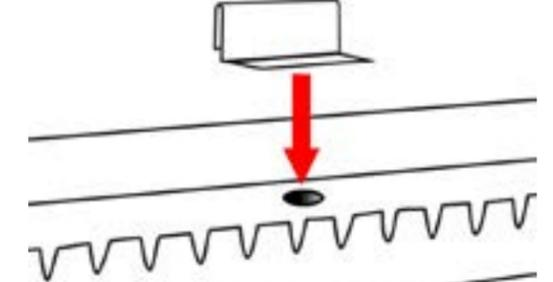
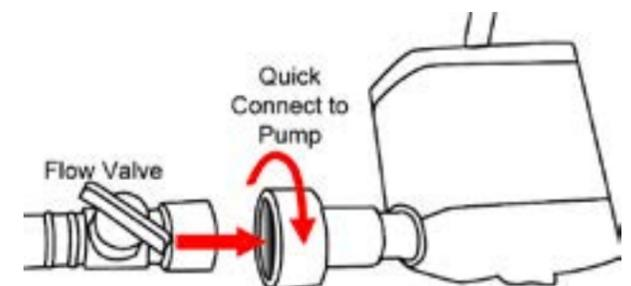

FIG. 5.2
FIG. 5.3
2. Drop the water diffuser(s) (F) directly over the center of the disperser hole(s) Fig 5.2). The diffuser(s)(F) will clip on the back edge of the disperser (E). Make certain the diffuser(s) (F) sit directly over the hole(s) (Fig 5.2).
3. During the mounting of the stone the plumbing tubing and connection may have moved behind the stone. Gently lift the bottom edge of the stone forward and pull the plumbing down so it is resting in the reservoir (L). The vinyl tubing should be inside the rounded bump out in the reservoir (L) so the weight of the stone does not pinch it closed.
4. Connect the pump (H) to the plumbing using the quick connect fitting (Fig 5.3). The flow valve should be open. Open is when the valve is in line with the plumbing. Closed is in perpendicular position.